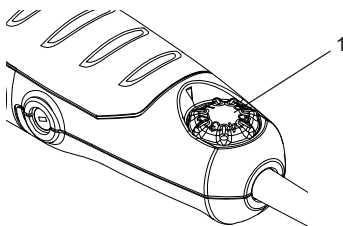

Figure 5
NOTE: The speed of the tool can be adjusted to run the tool at speeds varying between 11,000 - 20,000 OPM by rotating the speed control wheel (1) located toward the rear of the tool housing. (Figure 5)